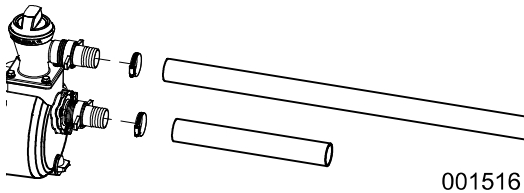

Figure 2-5. Typical Hose Attachment
3. See Figure 2-5. Attach the suction hose to the flange (bottom) by sliding the hose over the barb and securing with a hose clamp.